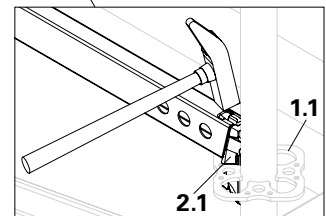

Fig. A1.02a
3. Securely fix all wedges using a hammer. (Fig. A1.02a)
- Securely fix all wedges using a hammer. (Fig. A1.02a)
3. Attach horizontal ledgers (2) to the rosette on both sides (1.1) using the ledger heads and wedges (2.1). (Fig. A1.02a)
4. Securely fix all wedges using a hammer. (Fig. A1.02a)
2. Attach horizontal ledgers (2) to the rosette on both sides (1.1) using the ledger heads and wedges (2.1). (Fig. A1.02a)